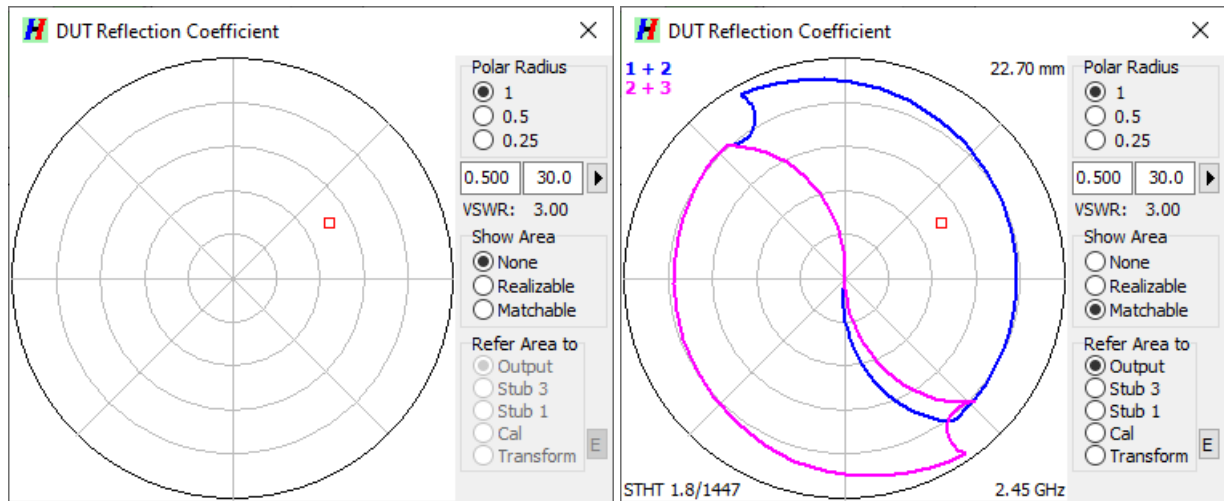

Fig. 48. DUT Reflection Coefficient window. Right: Matchable area valid for the chosen simulation frequency and maximal stub insertions.
When clicking the **Plot** radio button in the **Type** group, followed by the  button, the window titled **DUT Reflection Coefficient** (Fig. 48) will open, containing a polar plot. You are now able to generate the simulated Device Under Test (DUT) reflection coefficient Γ_A by the following methods:
- Click **Plot** in the *DUT page* of the **Homer Model** window, then click **Apply**. The **DUT Reflection Coefficient** window (Fig. 48) appears.